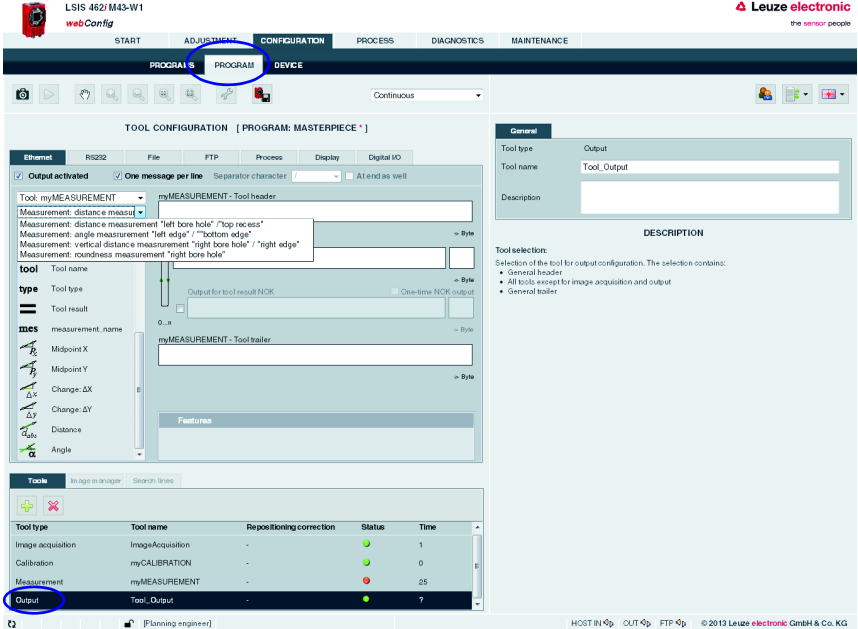

Figure 4.43: Window for configuring the output
- ↳ In the list box, first define whether you would like to configure the header, measurements from the "Measuring" tool (see figure 4.43) or the trailer.